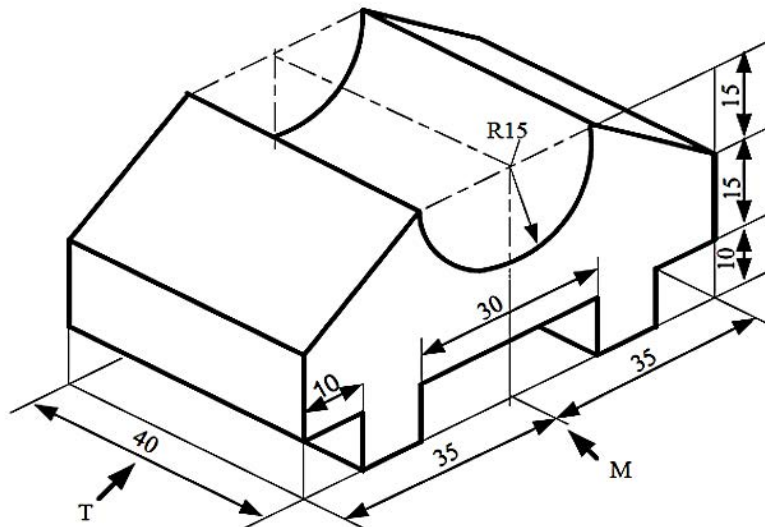

Figure 5
6. Figure 5 shows machine block in isometric projection. Using third angle projection and full size scale draw the following views: